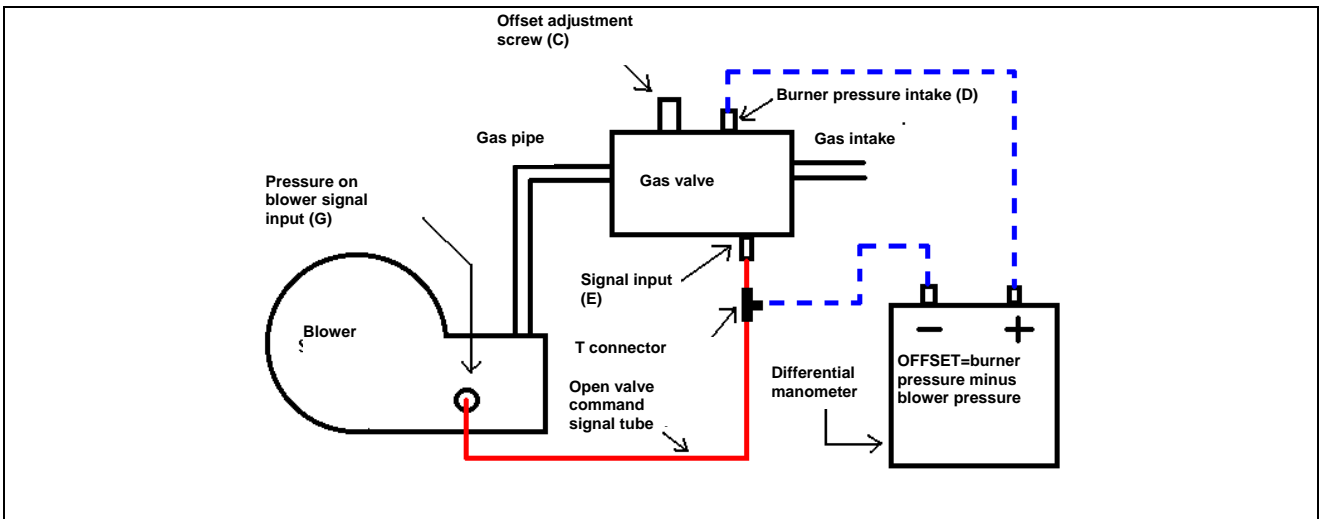
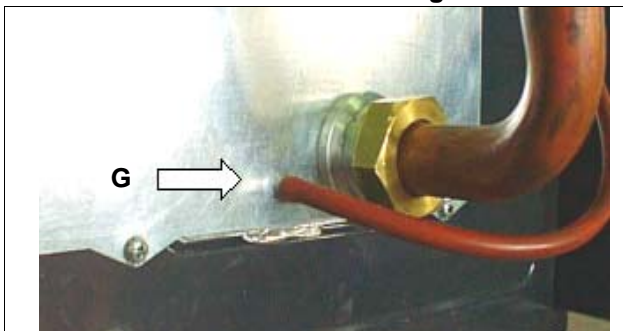

Figure 17
Figure 18 – EXIT OF PRESSURE SIGNAL GENERATED BY BLOWER
- The negative connector (-) in parallel to the silicon tube that connects the blower (connector "G", Figure 18) to the open valve signal input F (this operation is made possible by inserting a "T" connector between the silicon tube and the input (connector "F") to the valve as indicated in Figure 17.
- B) Unscrew the hexagonal nut that connects the gas pipe to the connector of the nozzle base (Figure 18). **Take care not to lose or damage the round internal seal.**